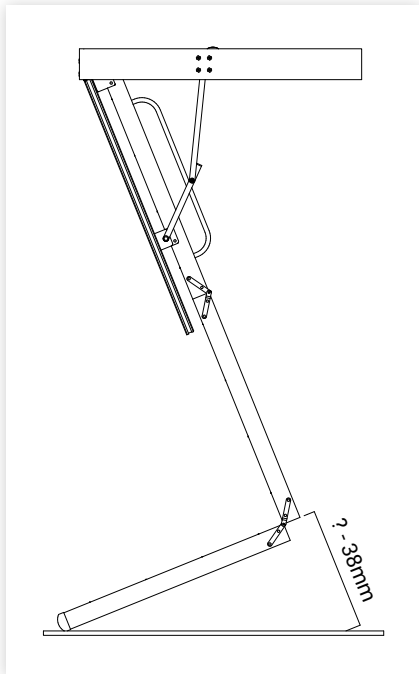

figure 10
1. With the top and middle sections of the ladder open and the bottom section tucked in behind, measure the distance from the bottom of the middle section, to the floor at the same angle as the ladder (figure 10). Do this on both sides.
2. Once you have determined the length of '?' (figure 10) deduct 38mm. Transfer these measurements to the front of each side of the bottom section of the ladder. Cut at 90 degrees. You may wish to remove the bottom section to complete this step.